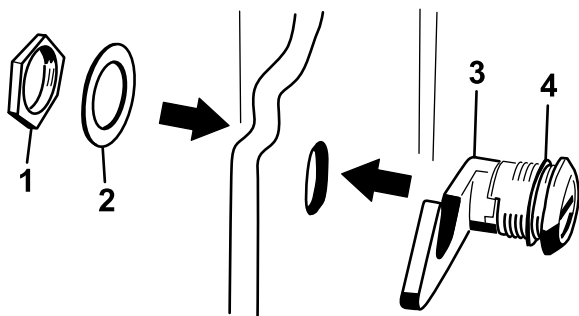

Figure 5
3. Remove the nut from the hood-latch assembly (Figure 5).
- On the outside of the hood, insert the hook end of the latch through the hole in the hood and ensure that the rubber-sealing washer remains to the outer side of the hood (Figure 5).